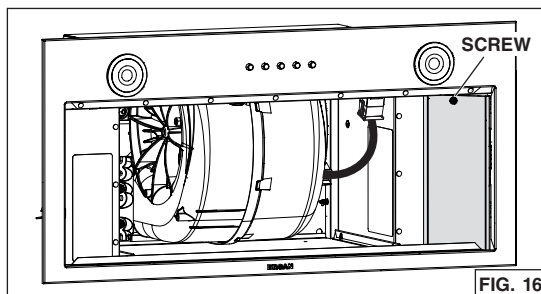

FIG. 16
3. Disassemble the electrical compartment cover (grey part in FIG. 16) from inside the unit by removing its retaining screw. Remove the parts bag behind the cover. Set aside the parts bag and the cover along with its screw.